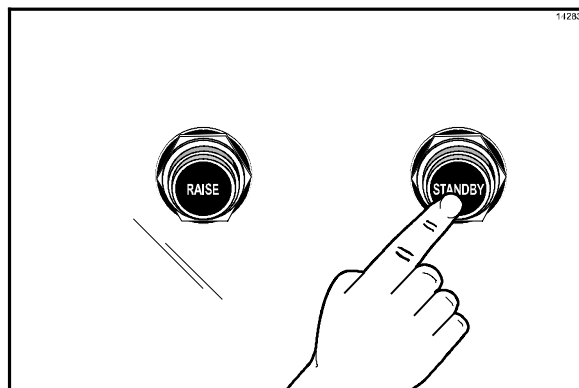

Figure 20
13. Press the Standby button to close the platen. (See Figure 20.)